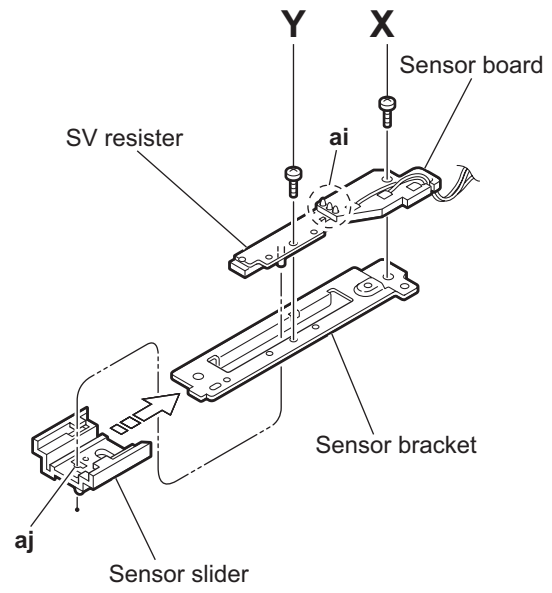

Fig.37
- (5) Remove the screw **X** and **Y** attaching the sensor board and SV. resister respectively. (See Fig.37.)
Remove the soldered section **ai** on the sensor board as required. (See Fig.37.)